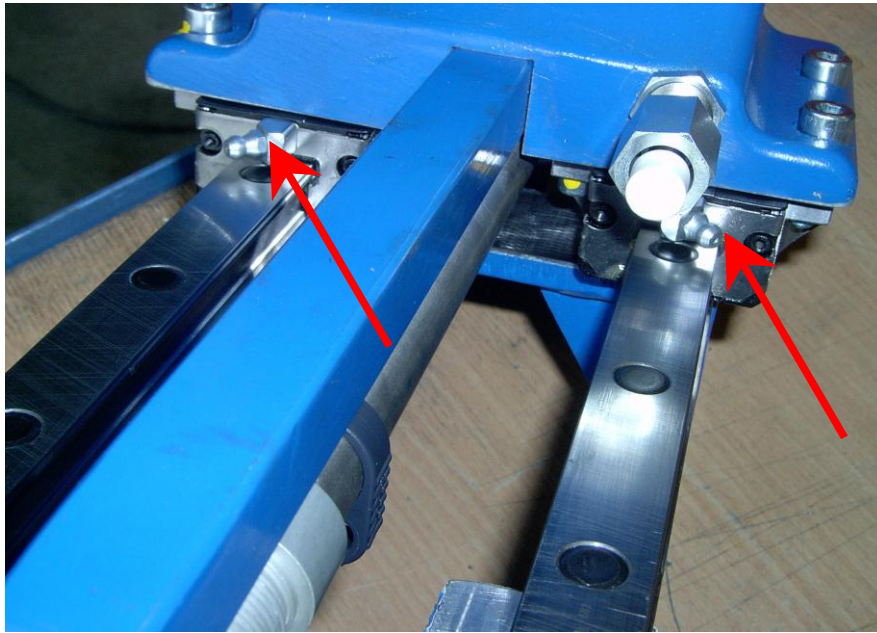

Fig. 5.1.11
- Clean the leadership weekly and grease at the smearing nipples (fig. 5.1.11) provided for this. Recommended lubrication grease **Klüber – Isoflex LDS18**.